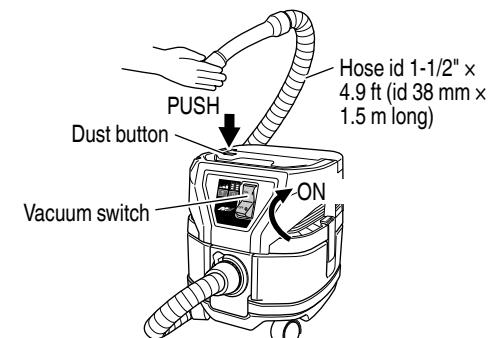

Fig. 19
(1) Pull out the zoom pipe on the tip of the hose.
(2) Block off the tip of the hose with your hand and turn the power switch ON. Next, press the dust button on the top of the head for approximately one second and release the button. Repeat three times and the suction power should recover. (Fig. 19)